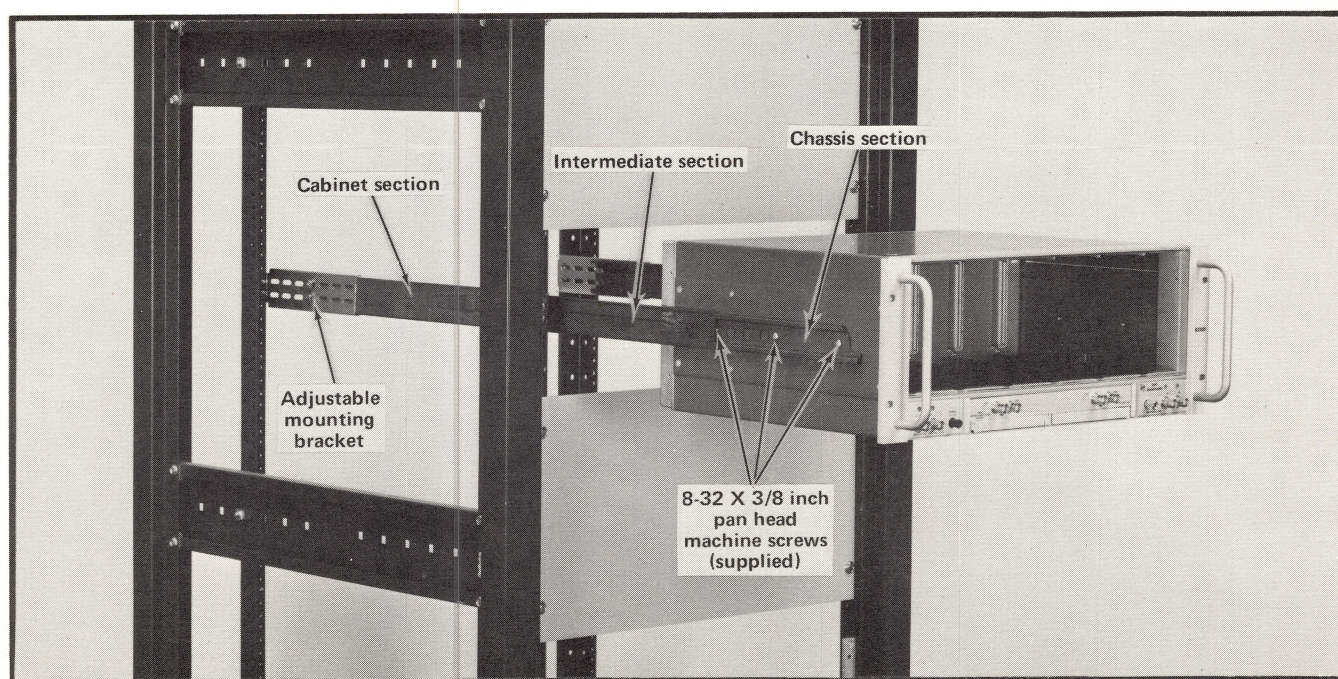

Fig. 6-1. Instrument mounted in rack equipped with slide-out tracks.
Fig. 6-1 shows the instrument installed in a cabinet type rack equipped with slide-out tracks. The instrument can be pulled out of the rack to a position which allows access to the whole instrument. The track assembly locks in the extended position.
The slide-out tracks for the instrument consist of two assemblies, right and left sides. Each assembly consists of three sections, (1) a stationary section which attaches to the cabinet, (2) a chassis section which attaches to the instrument, and (3) an intermediate section which fits between the cabinet and chassis sections. See Fig. 6-1.